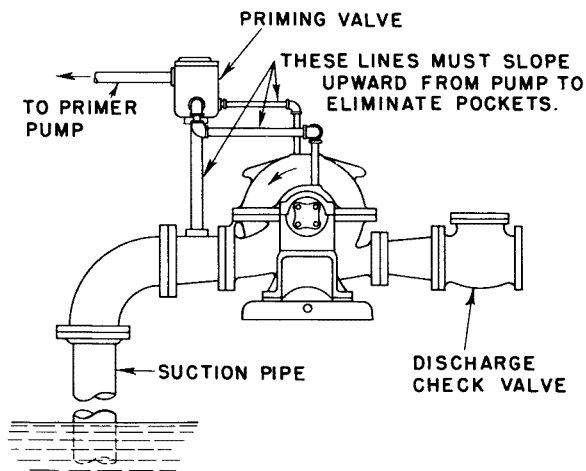

Figure 15 (239-77-2)
4. Priming by Automatic Primer Pump (See Fig. 15):
Where there is a fluctuating suction lift that occasionally might drop below the normal limits of the pump or for installations where there is any quantity of air entrained with the liquid being pumped, the system shown in Fig. 15 is very well adapted.